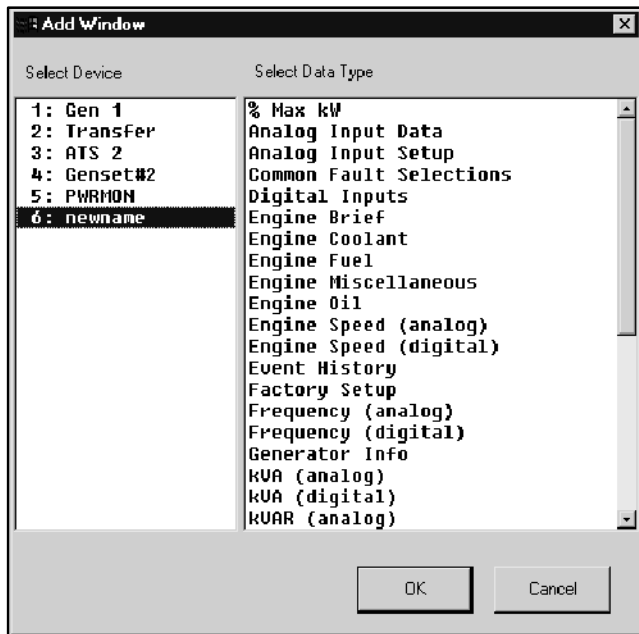

Figure 2-15 Add Window
3. The software displays available devices and their designations. See Figure 2-15. Local or remote single connections show one device at address 1. Local or remote area network connections show addresses from 1 to the last address used on the network. Select a device from the left side of the screen. Available data windows for each device type are shown in the right pane.